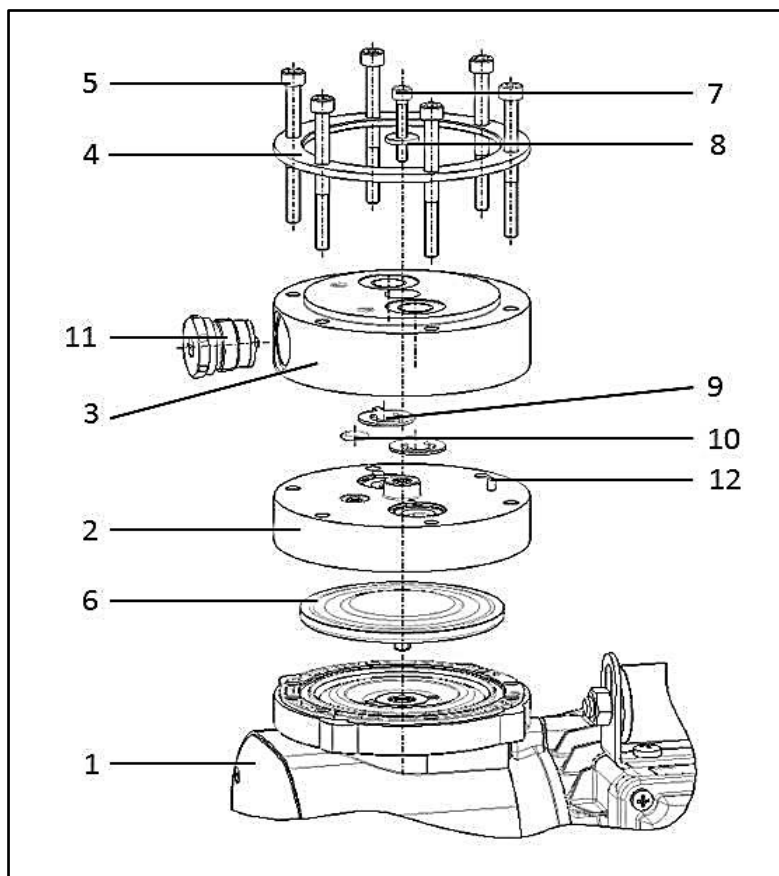

Fig. 12: Pump parts N 922 FT.29E
\*\* According to Fig. 12
The position numbers in the following text refer to Fig. 12.
**i** The position numbers in the following instructions refer to Fig. 12.